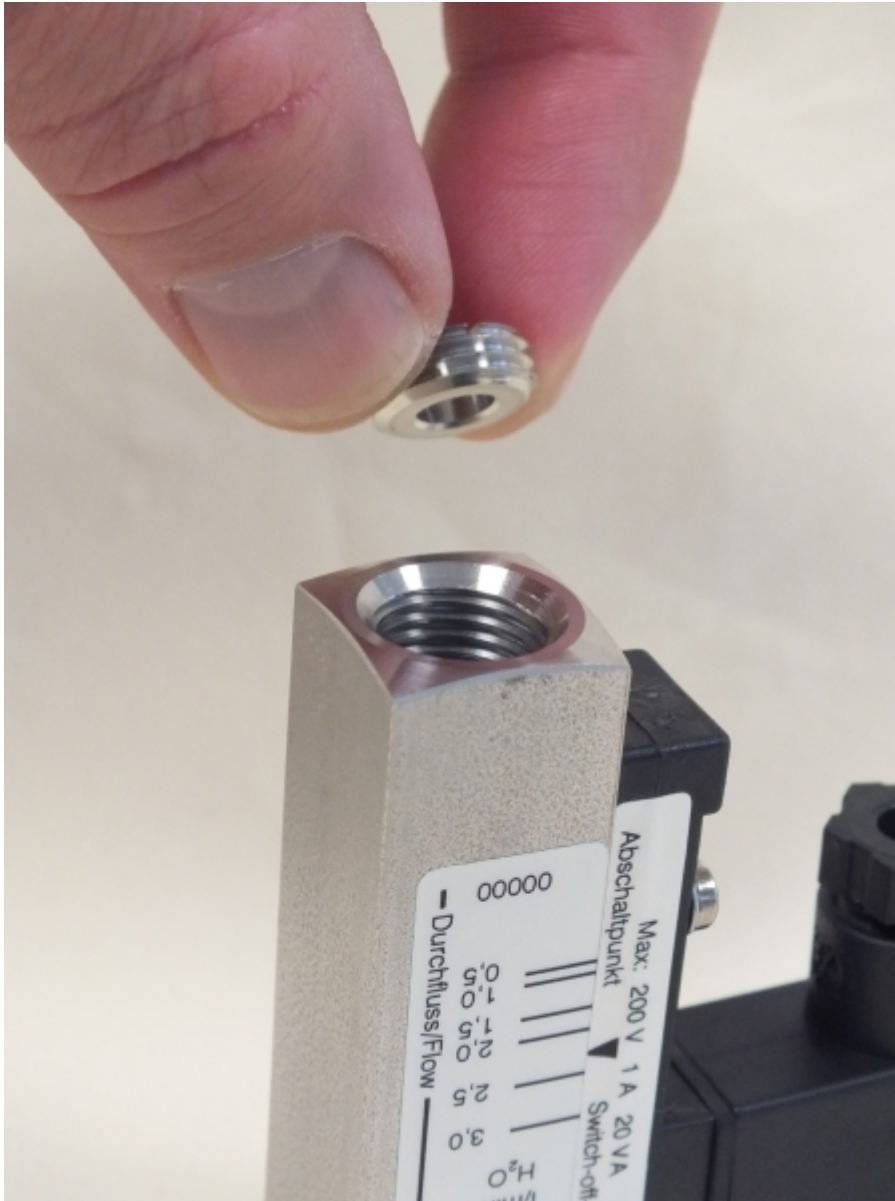

Fig. 43: Insert threaded ring (inlet)
1. ➡ Insert the threaded ring (inlet) into the device body (inlet) (Fig. 43)